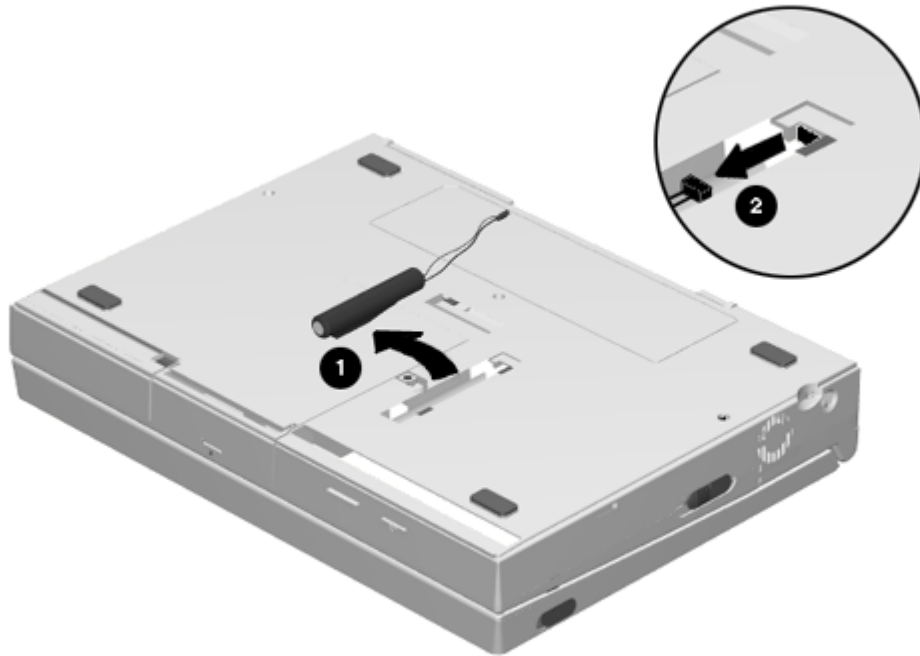

Figure 5-8. Removing the Auxiliary Battery
2. Lift the auxiliary battery out of its compartment [1] and disconnect the auxiliary battery cable [2] as shown in Figure 5-8.
2. Plug the auxiliary battery cable into the connector in the rear of the compartment (Figure 5-8).